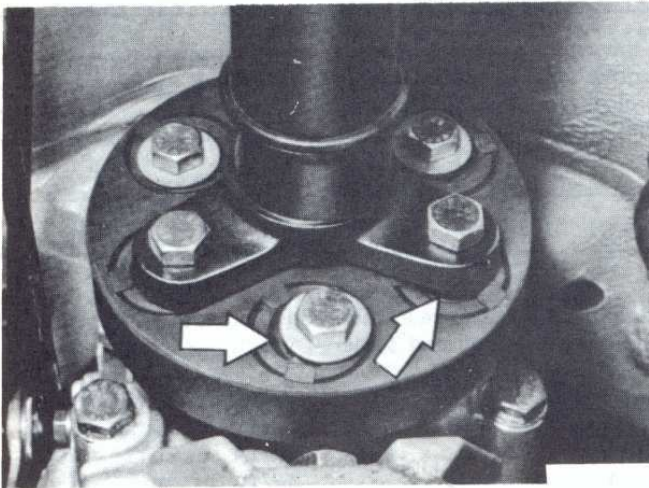

Fig. 7.11 Soft type of flexible coupling fitted to the transmission flange on some models (Sec 5)
- 8 Locate the flexible coupling on the propeller shaft flange with the previously made marks aligned, if applicable. Insert the bolts (with their heads facing the centre bearing), then fit new self-locking nuts and tighten them evenly to the specified torque. Note that on some models the flexible coupling at the transmission end of the propeller shaft is of a softer design (see Figs 7.11 and 7.12) – this type must always be fitted as shown.